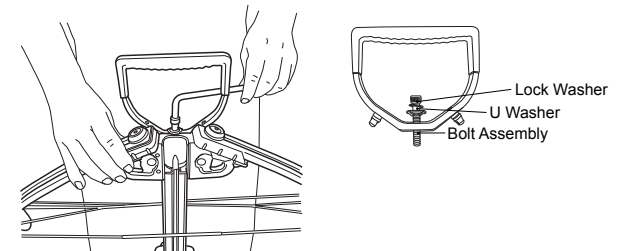

Figure 5
- 14 Secure the bow unit and the foot stirrup to the barrel by tightening the assembly bolt with u-washer and lock washer in place using the 1/4" allen wrench provided. Tighten fully (See Figure 5). **TIP - Do not rock the bow unit back & forth when securing the bow unit onto the barrel. Tightening the assembly bolt will secure the bow unit.**